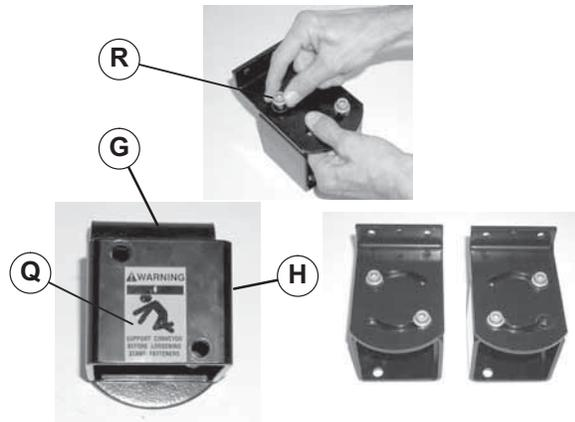

Figure 7
Leg support bracket (Figure 7, item H) must be installed on stand/conveyor mounting bracket(s) (G) with warning label (Q) facing out. When installed, round end of stand/conveyor mounting bracket will be down and warning label will be upright, as shown.
9. Attach leg support bracket (Figure 7, item H) to stand/conveyor mounting bracket (G) with two flange socket head screws (R). Do not tighten screws.
10. Repeat step 9 for opposite leg support bracket (Figure 7, item H). To ensure proper attachment of stand/conveyor mounting bracket to conveyor, install flange socket head screws (R) in opposite holes on opposite leg support bracket, as shown.